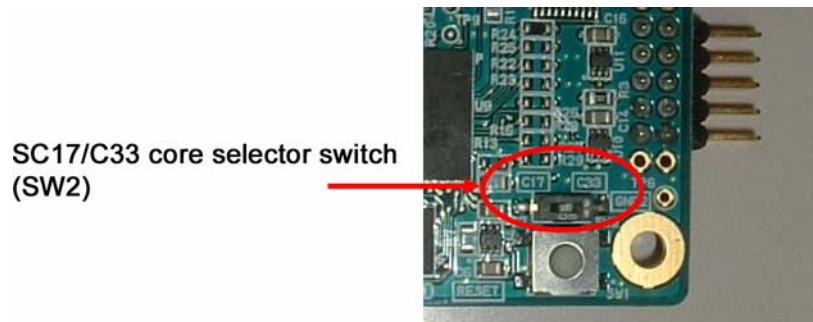

Figure 3.7 C17/C33 core selector switch
- * The C17/C33 core selector switch (SW2) in Figure 3.7 should be set to “C17” at all times. Note that operation is not possible if this switch is set to “C33.”